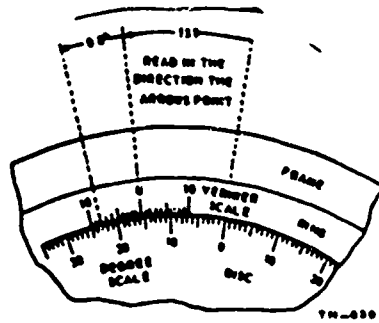

Figure 10. Degree Scale.
j. Read the number of whole degrees on the disc between the 0 on the disc and the 0 on the ring as illustrated in figure 10.